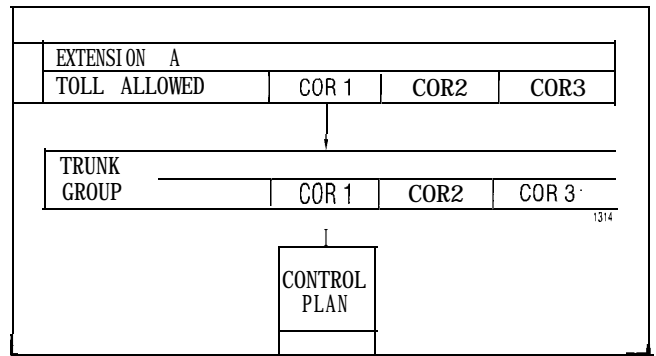

Fig. 9-1 Control Plan Assignment
9.03 Example 1: Allow Extension A to ALL local NNX codes and to the three N(O/I)X codes - 212, 714 and 303. Deny access to the CO operator and the complete toll network. (Fig. 9-1, 9-2)